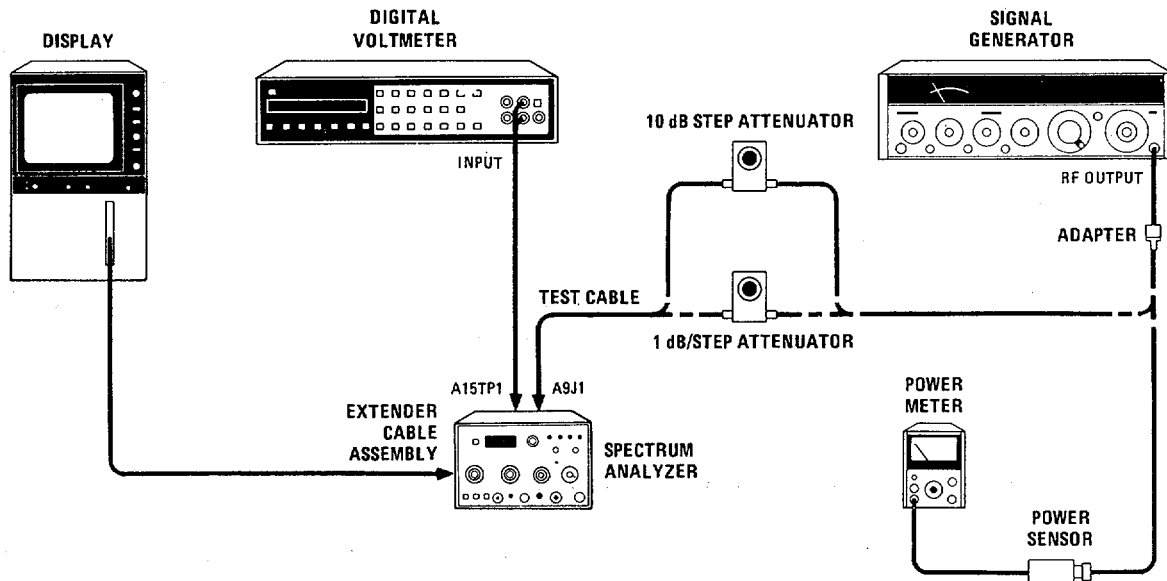

Figure 5-11. Step Amplifier Gain Adjustment Test Setup
2. Connect equipment as shown in Figure 5-11. Connect signal generator tuned to 301.4 MHz with approximately -13 dBm output to one side of a 1 dB/step attenuator. Connect attenuator output to A9J1 through test cable. Tune signal generator frequency for peak amplitude on display.